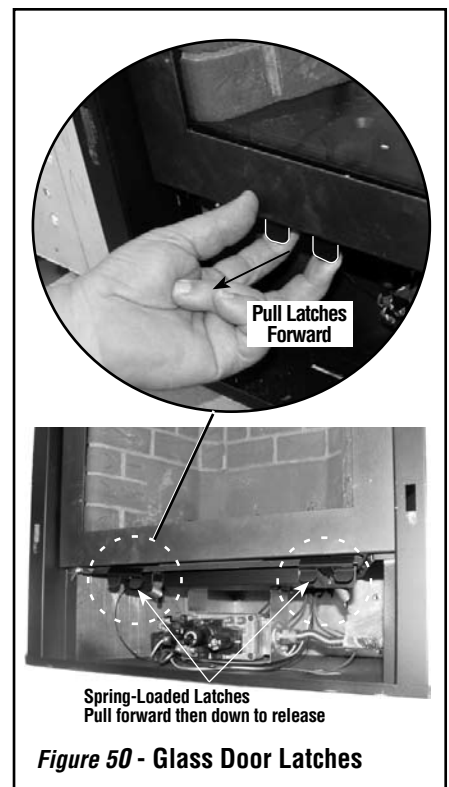

Figure 50 - Glass Door Latches
Removing Glass Enclosure Panel (see Figures 50 and 51)
2. Locate the two (2) latches at the top of the control compartment (see Figure 50). To disengage the two latches, pull the spring-loaded latches forward then down as shown in Figure 50.
Installing Glass Enclosure Panels (see Figures 50 and 51)